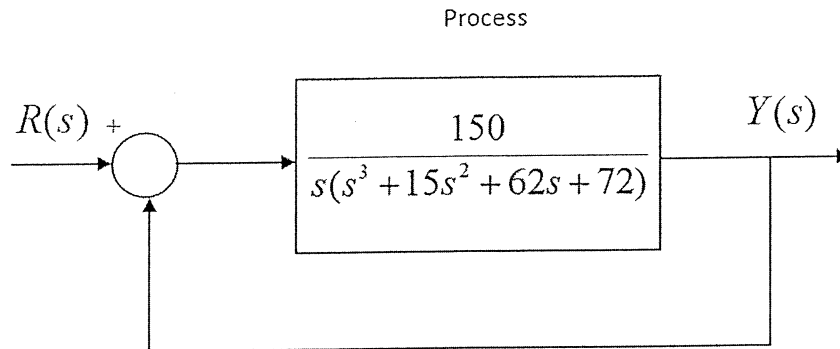

Figure Q4.1 – Control System in Question 4
A certain closed loop control system is shown in Figure Q4.1:
- 2) **(8 marks)** Next, Figure Q4.2 shows two frequency response plots – one for the open loop transfer function (as shown in Figure Q4.1), and one for the closed loop transfer function, $G_{cl}(s)$. Label the two plots correctly, and then use them to determine two more second order Closed Loop Models: